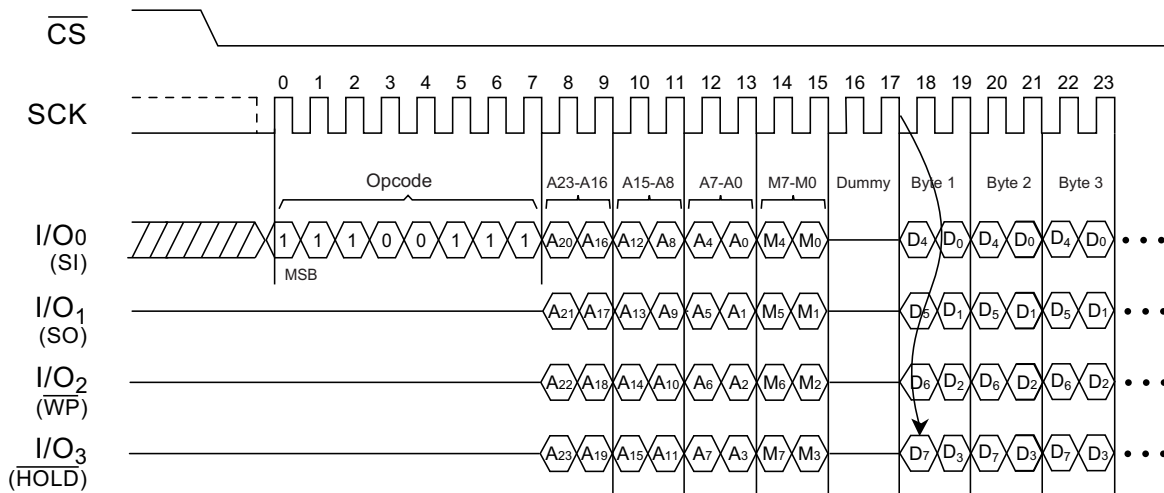

Figure 15: Quad I/O Word Fast Read Timing (Initial Command Set M5, M4 ≠ 1,0) SPI Mode
The Quad I/O Word Fast Read command is similar to the Quad Fast Read command, except that the lowest address bit (A0) must equal 0 and have two dummy clock cycles. Figure 15 shows the command sequence; the first byte addressed can be at any location. The address is automatically incremented to the next higher address after each byte of data is shifted out. The Quad Enable bit (QE) of the Status Register (S9) must be set to enable.